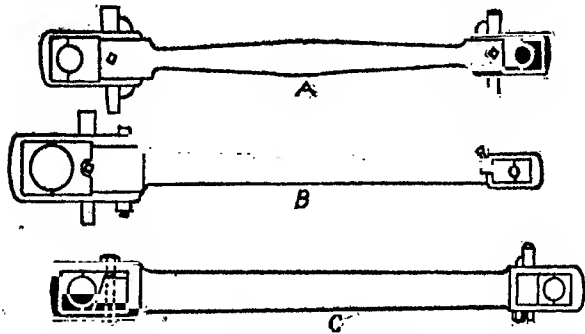

FIG. 42.—CONNECTING RODS.
**Connecting Rod and Boxes.**—The connecting rod joins the crank shaft to the crosshead. It fits the crank pin at one end and the crosshead at the other. The length of this rod is usually made about two and three-quarters times the stroke of the engine as measured from center to center of the boxes. They are made in several different styles, of which three are shown in Fig. 42.
A more recent style of strap connecting rod is shown as B in Fig. 42. It is being used very largely at the present time and is the only one that is adapted to center crank or double cylinder engines. These rods have the crosshead end forged solid with the rod and then slotted out to receive the boxes for the crosshead pin. The cut shows the use of